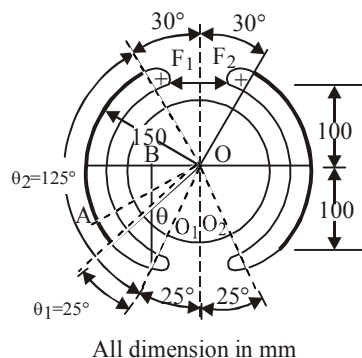

Fig.1
9. Fig. 1 shows the arrangement of two brake shoes which act on the internal surface of a cylindrical brake drum. The braking force  $F_1$  and  $F_2$  are applied as shown and each shoe pivots on its fulcrum  $O_1$  and  $O_2$ . The width of the brake lining is 35 mm. The intensity of pressure at any point A is  $0.4 \sin \theta$  N/mm2, where  $\theta$  is measured as shown from either pivot. The coefficient of friction is 0.4. Determine the braking torque and the magnitude of the forces  $F_1$  and  $F_2$ .